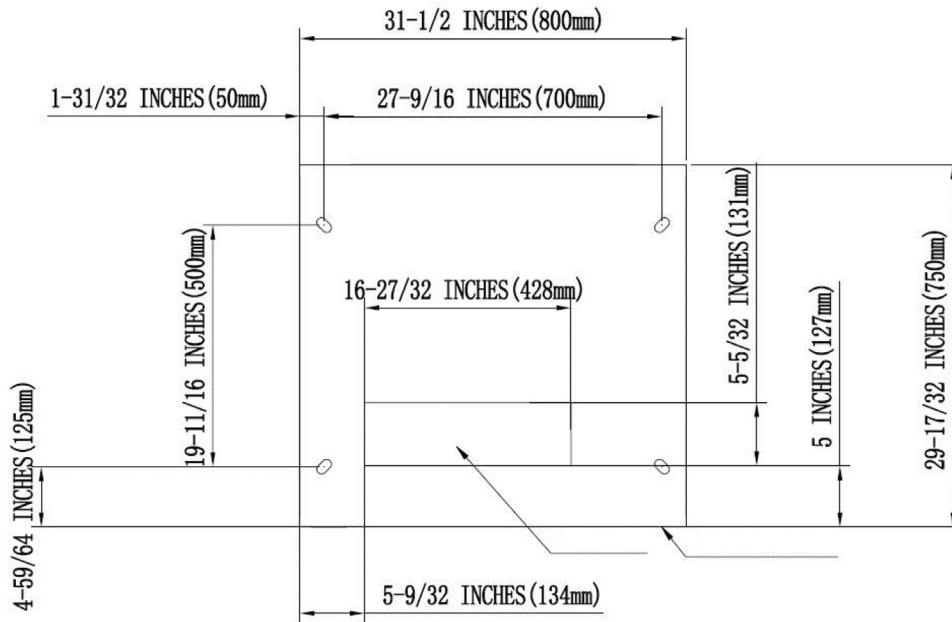

Figure 3.4.2-A
1. The hole size is shown in Figure 3.4.2-A.